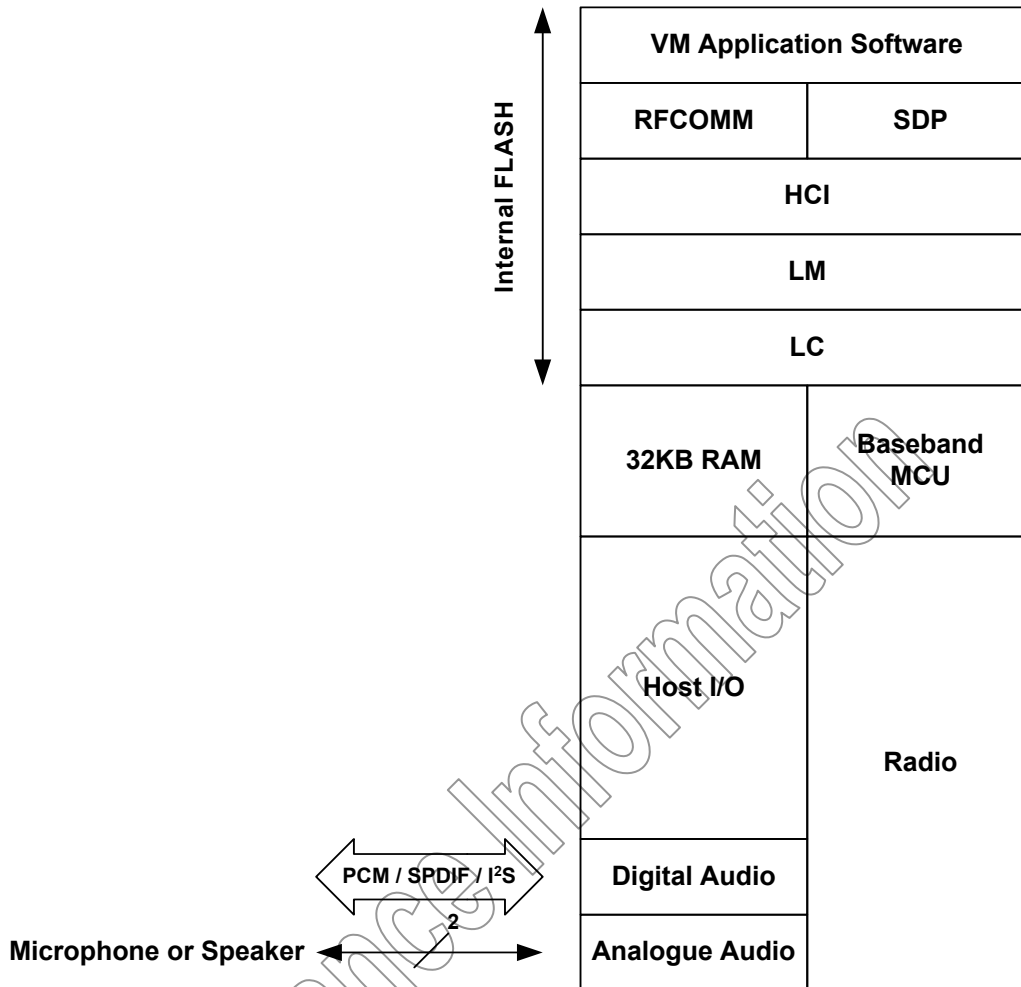

Figure 8.3: Virtual Machine
In Figure 8.3, this version of the stack firmware shown requires no host processor (but can use a host processor for debugging etc.). All software layers, including application software, run on the internal RISC processor in a protected user software execution environment known as a Virtual Machine (VM).